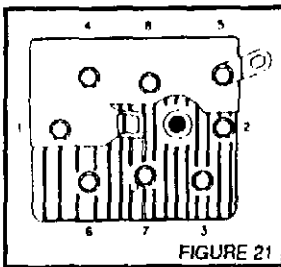

FIGURE 21
4. Use socket wrench with 6 inch handle and turn all screws 1/4 turn. Tighten screws in sequence illustrated (Fig. 21, 22 and 22A). Run engine approximately 5 minutes and retighten all screws approximately 1/4 turn.